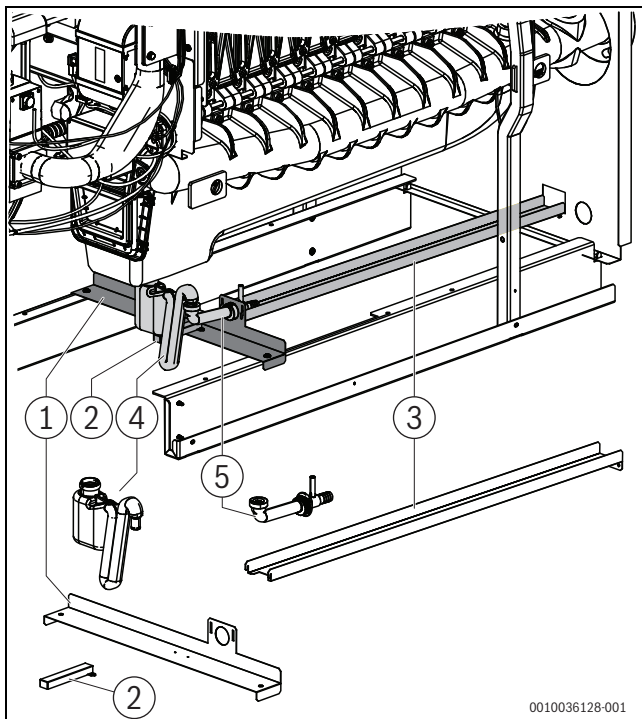

Fig. 22 Installing the condensate pipes
- ▶ Screw the siphon support panel (→Fig. 22, [2]) on the siphon bracket [1] and assemble together on the cross beams.
- ▶ Hang the hose bracket (→Fig. 22, [3]) into the siphon bracket and screw onto the rear panel of the boiler.
As an alternative, the boiler can be equipped with a condensate neutraliser (accessory) for the neutralisation of the condensate. The condensate neutraliser is positioned under the boiler instead of the hose bracket (→Fig. 22).